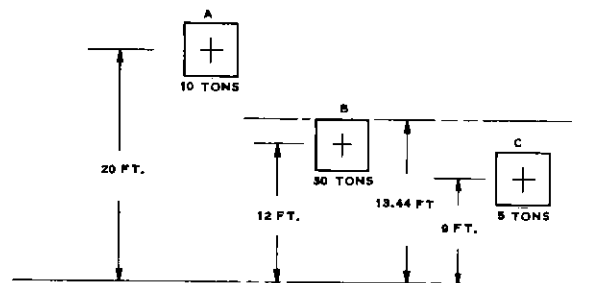

FIG. 7
2. Example #2. When dealing with weights and centers it is important to recognize the overall effect caused by changing the quantity and location of an individual weight. This is illustrated by increasing B as used in Fig. 6 to 30 tons and the vertical distance to 12 ft.; Fig. 7 shows the effect of this change.